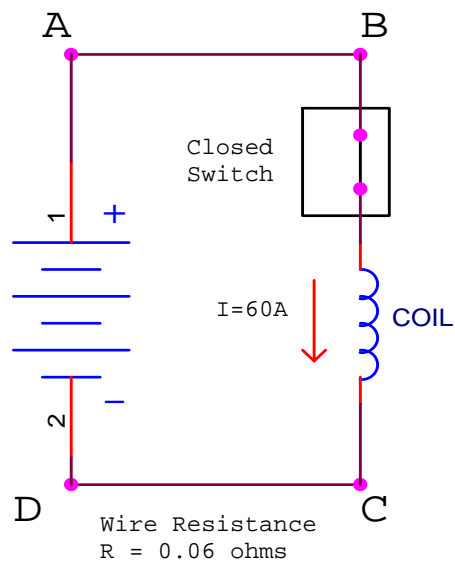

Figure 2
In figure 2, the switch is closed. Now the current (I) is flowing through the ground wire that now has a resistance (R). This causes point C to be IR volts above point D. If the coil is a starter solenoid rated at 60A and the wire is 10 feet of 18AWG stranded copper wire, the voltage at point C will be about 3.6V. Decreasing the current, shortening the wires or using larger gauge wires would reduce this effect.